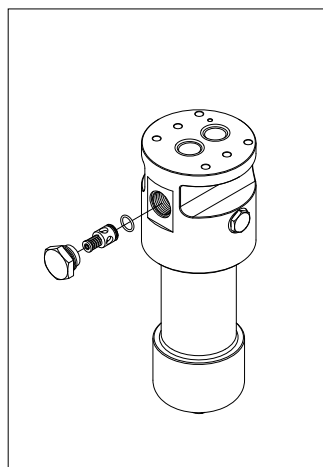

fig. 33
- (Fig. 33) Replace the O-rings of the bypass